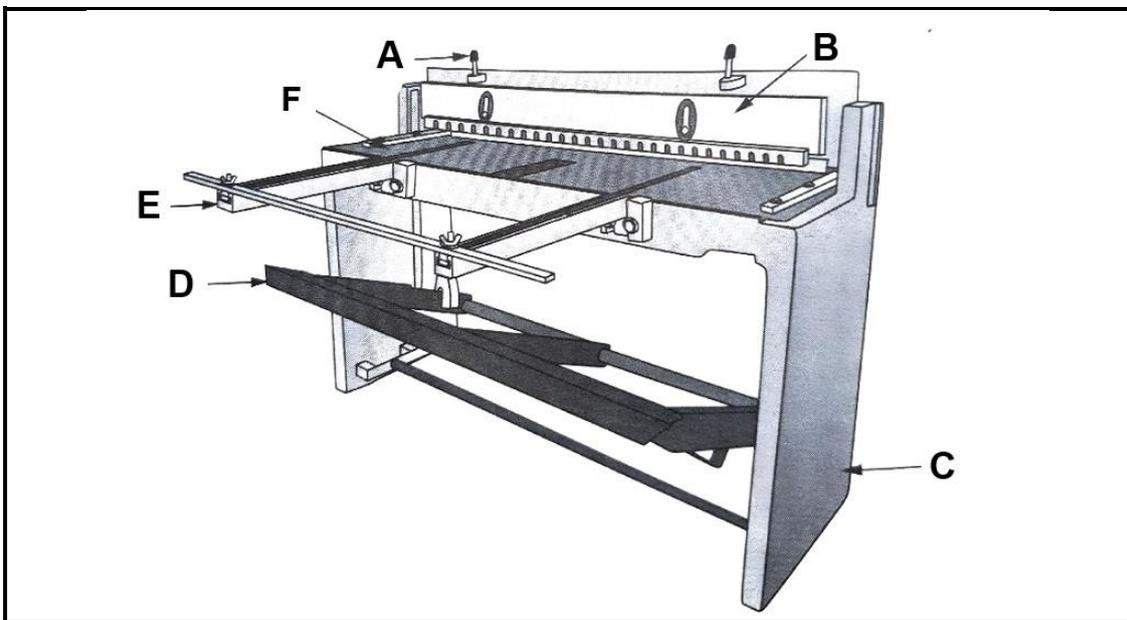

FIGURE 3.3
3.3 Study the diagram in FIGURE 3.3 below and answer the questions that follow.
3.3.1 Identify the diagram in FIGURE 3.3 above. (1)
3.3.2 What is the tool in FIGURE 3.3 used for in the workshop? (2)
3.3.3 Label parts A–F in FIGURE 3.3 above. (6)
3.3.4 What is the maximum thickness of materials the tool in FIGURE 3.3 above can accommodate? (1)